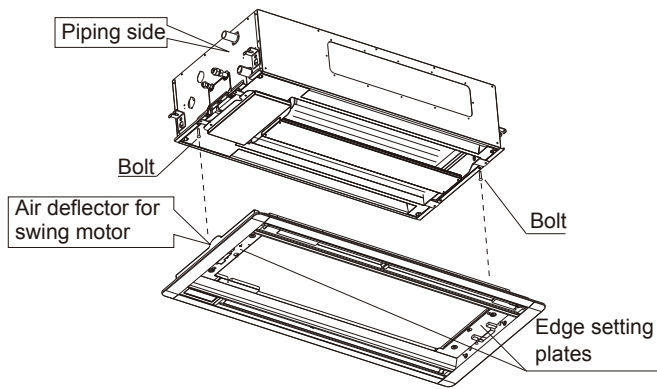
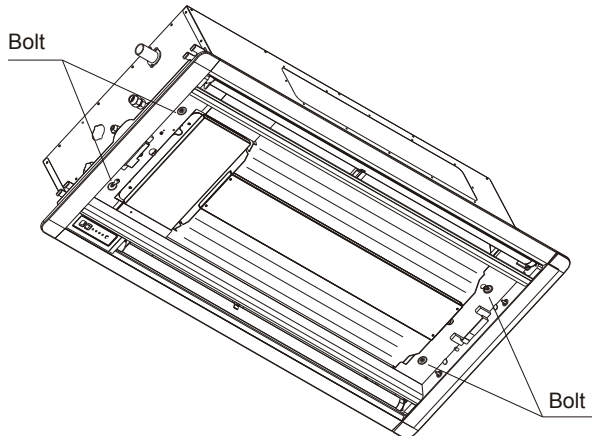

Figure 3.15
Figure 3.16
- (1) Align the air deflector at the swing motor with the corresponding copper pipe connection and water discharge connection of the unit body.
- (2) Place two positioning bolts (from panel accessories) and install them at the corresponding positions of the unit body, as shown in Figure 3-15 (tighten in the bolts by about 10 cm).
- (3) Hang the frame setting plates on the panel on the two bolts described in step (2) above (it will be easier to start with the water discharge side).
- (4) Reverse to remove the positioning bolts installed in step (2), and take out the other two bolts from the panel accessories.
- (5) Turn to tighten the four bolts. The mounting position is as shown in Figure 3.16. Secure the panel to the unit body, and make sure that there is no gap between the panel and ceiling.